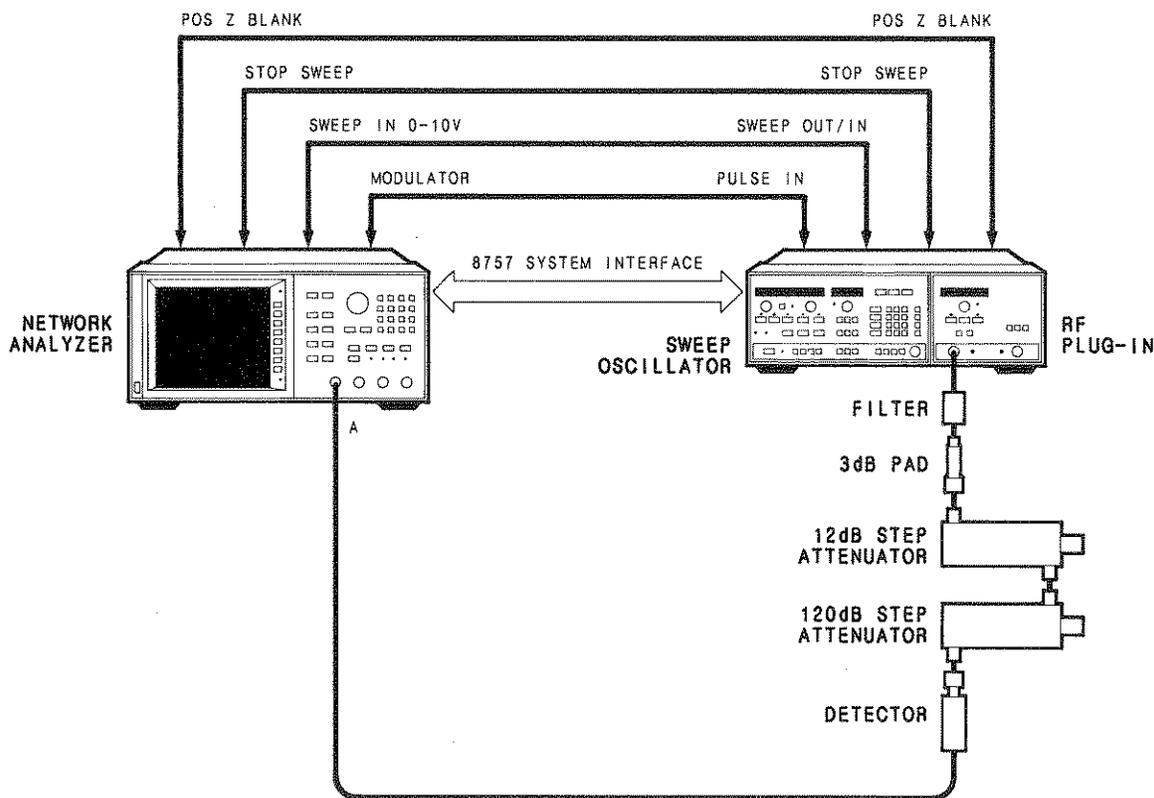

Figure 4-3. Dynamic Power Accuracy Test Setup
1. Set up the equipment, as shown in Figure 4-3, with the detector connected to input A. Allow 30 minutes warm-up time.